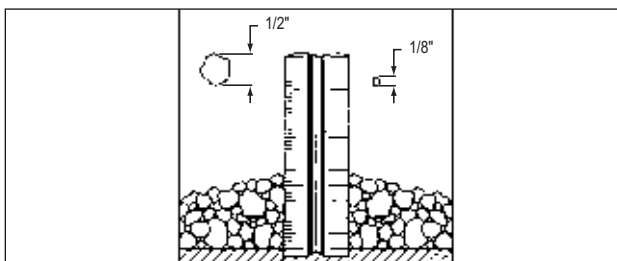

FIGURE 5-2
5.1.3.3. When using crushed stone, the material is to be a mix of angular particles, sizes between 1/8 inch and 1/2 inch. (See FIGURE 5-2.) The crushed stone must conform to the specifications of ASTM C-33, paragraph 9.1, sizes 7 or 8.